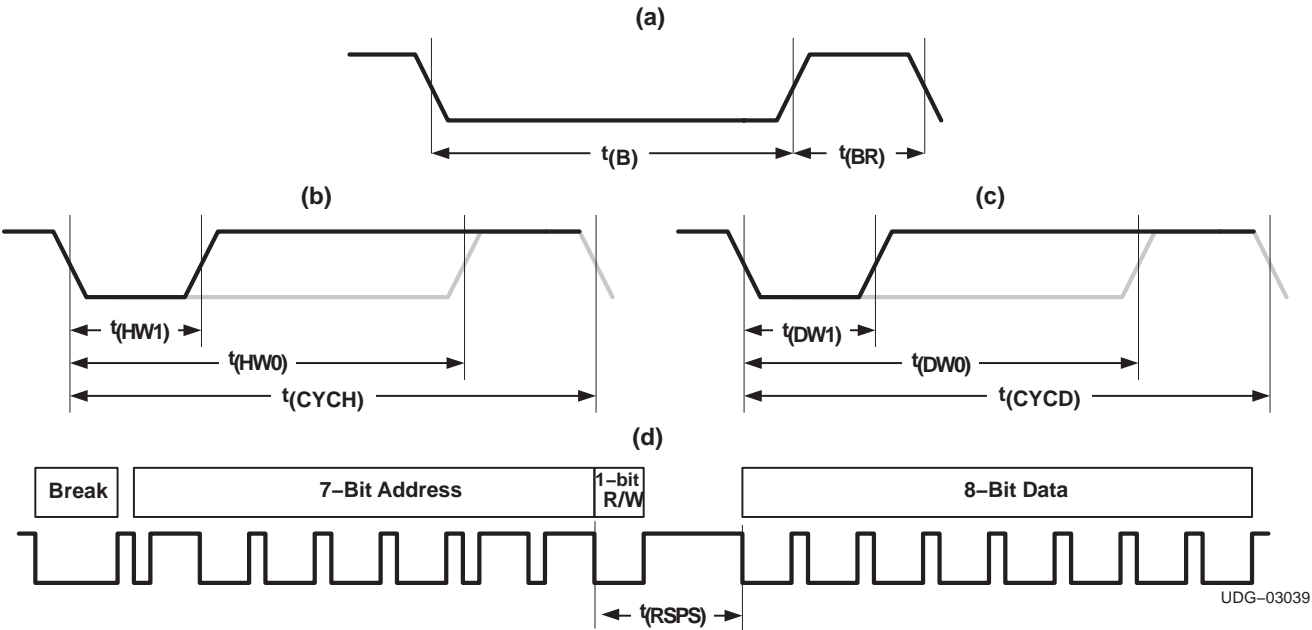

Figure 1. HDQ Bit Timing Diagrams
(1) Maximum number of programming cycles on the EEPROM is 10 and data retention time is 10 years at  $T_A = 85^{\circ}\text{C}$
(2) See Figure 1.
(3) Not a production tested parameter.